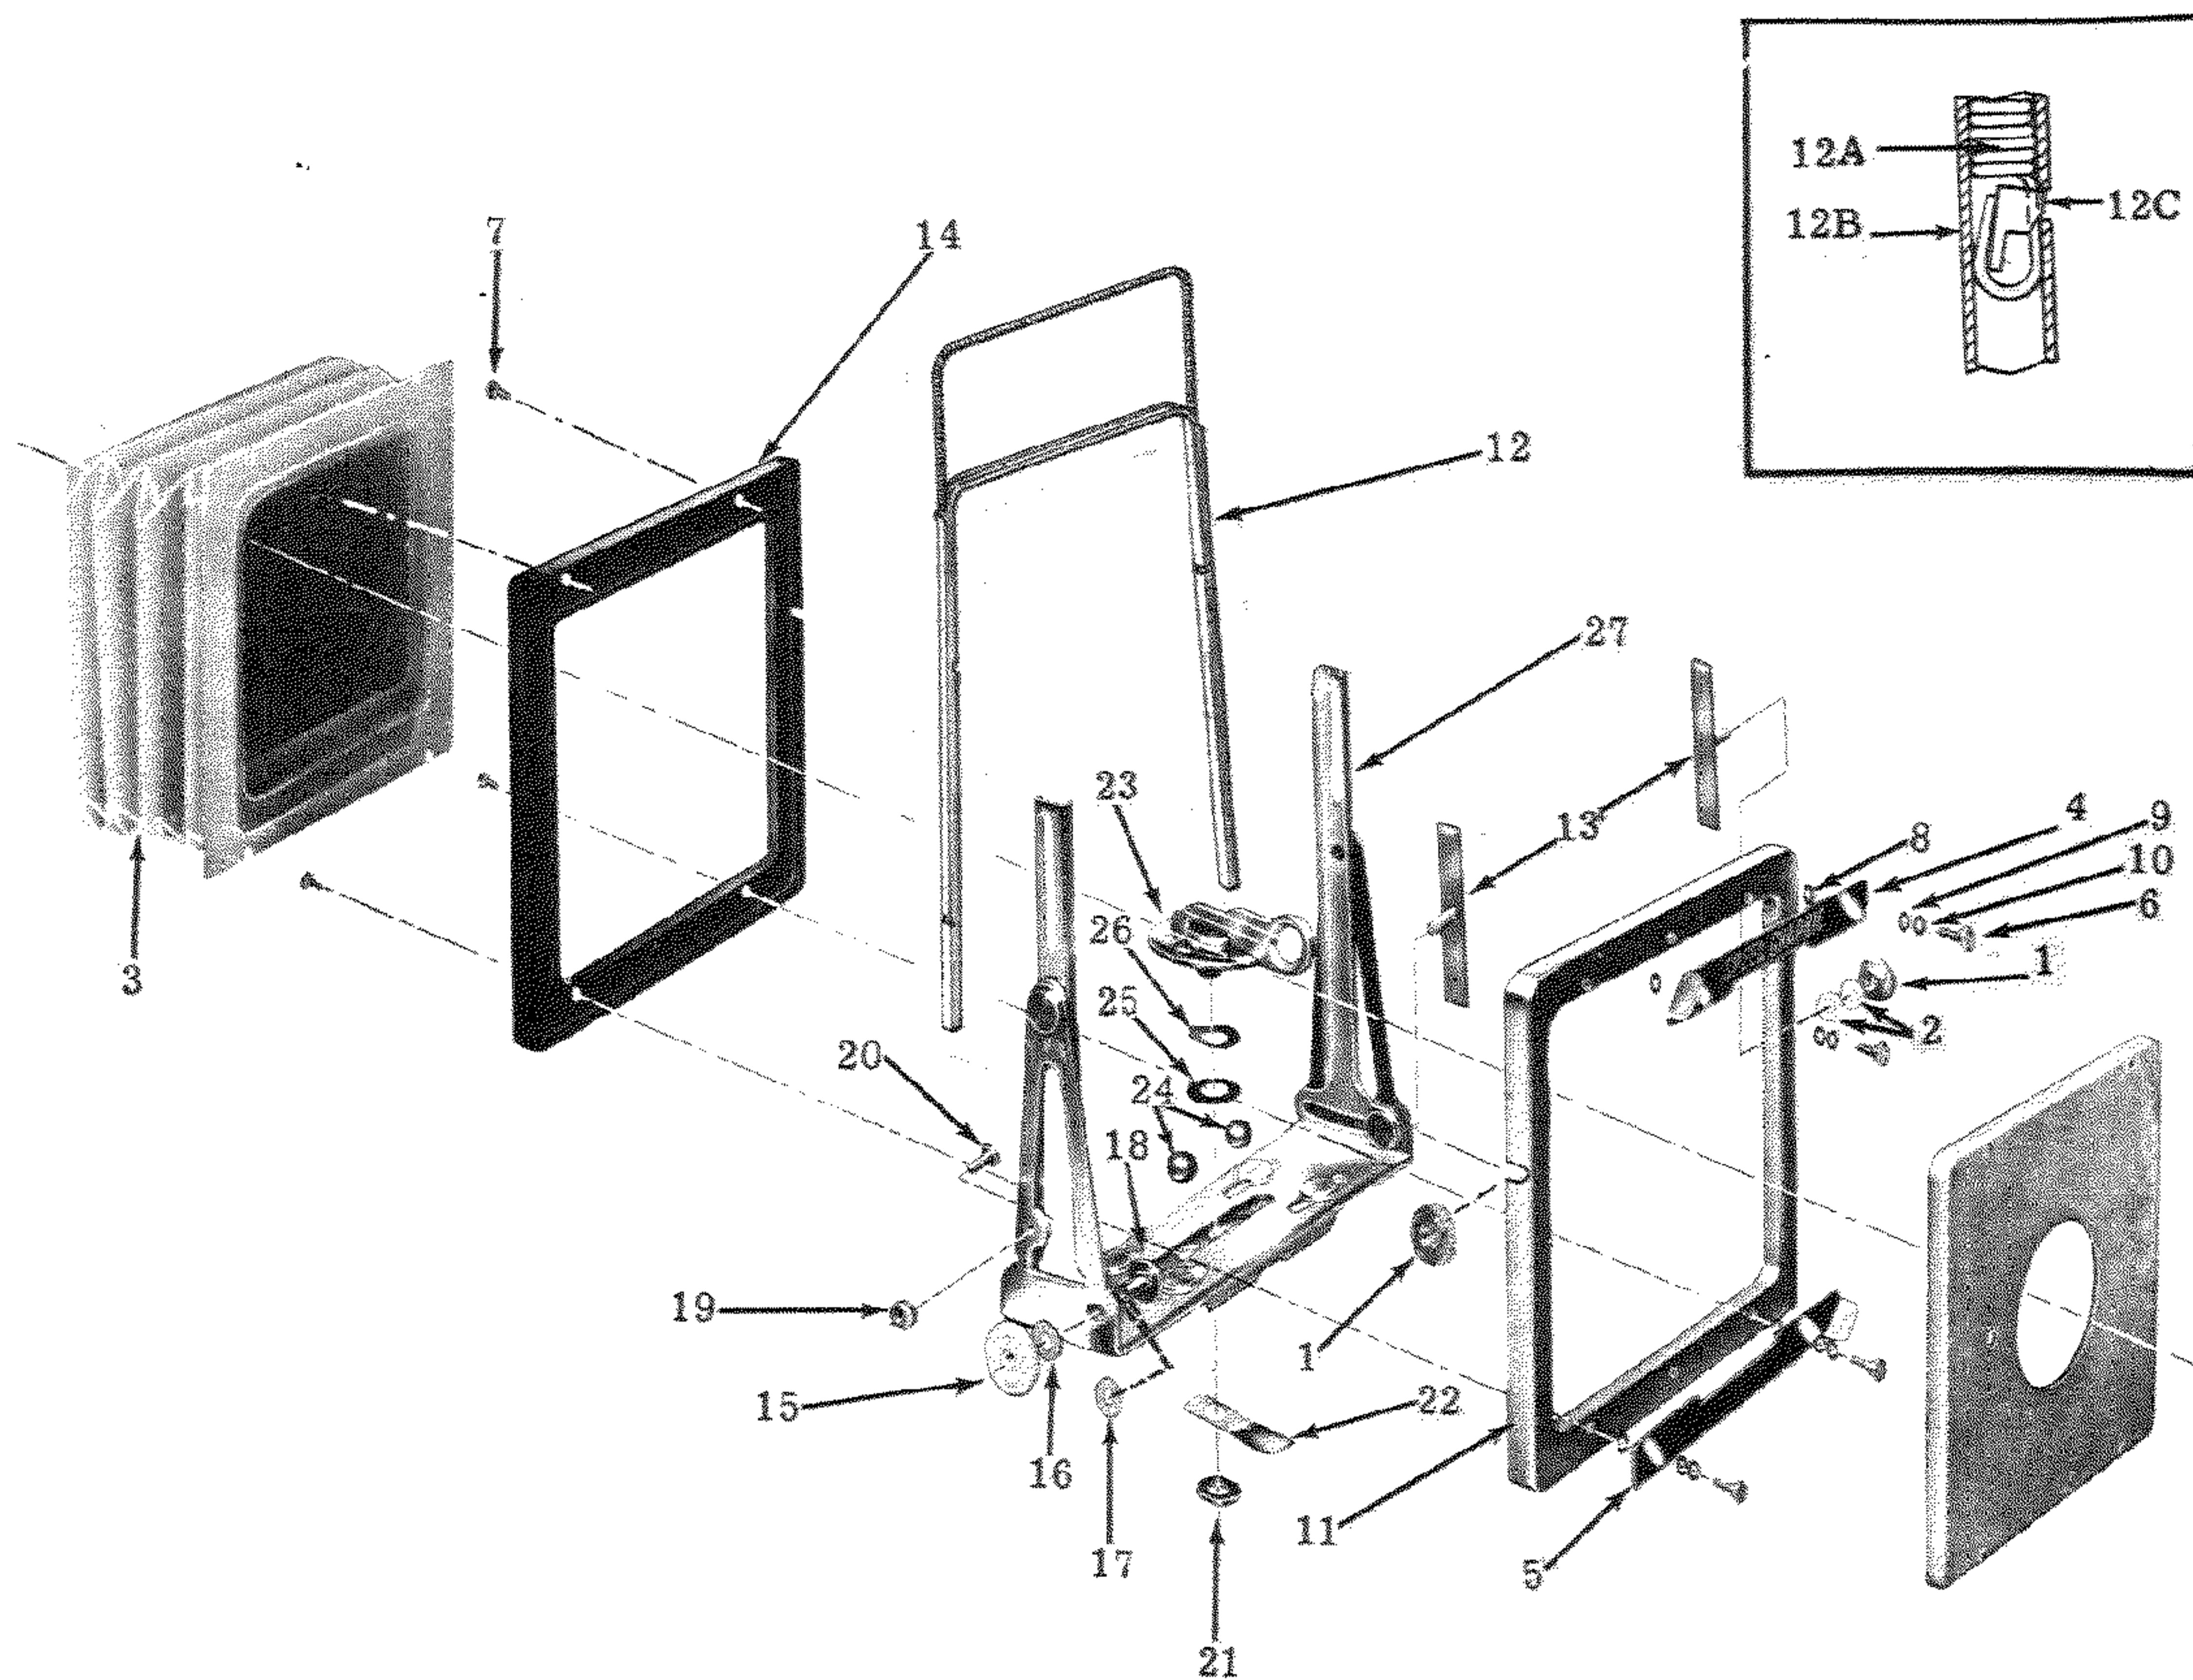

Figure 19. Front Standard Complete
NOTE: If it is not necessary to remove the bellows assembly (3, figure 19), slide the front standard from the bed and proceed from paragraph C.
- c) Set the curtain at "0", (open), and remove the two bellows retaining clips (23).
- d) To remove the bellows from the frame and support section, remove the lower slidelock (5, figure 19) that is secured by two slidelock screws (6). Loosen the two upper slidelock screws (6). Swing the lower edge of the front bellows frame back and drop the upper edge free from the slidelock nut head.
- a) Remove the frame clamp knob (rising front) (1, figure 19) from the right side of the front standard. Slip the manual trip bracket (27C, figure 3) from the stud.
- a) Remove two rising front knobs (1, figure 19) from each side of the frame. The ends of the stud securing knobs are staked. Remove the upper and lower slidelocks (4 and 5) that are attached by slidelock screw (6) flat washers (8 and 9) and spring washer (10).
- b) Spread the standard support assembly (27) enough to slide the lensboard frame upward and free of the channel.
- c) Lift the outer front frame assembly (11) evenly from the assembly to expose the inner parts of the frame and remove the finder complete (12).
4) Lateral Shift Spring and Lock Lever Disassembly. The lever assembly (23) and the shift locking spring (22) are secured by the special hex nut (21). Unscrew the special nut (21) from the bottom of the standard support assembly (27). The shift locking spring may now be removed. Unscrew the slotted stud
1. The bellows (3) should be wiped free of dirt on the outside with a damp cloth. Scrub the inside surface with a stiff brush (old toothbrush) and blow out all loose dirt and grit.
3. Clean the sliding area of the finder (12A, figure 19), the finder frame (12B) and the front frame clamp plate assemblies (13) in solvent (AN-T-37a) and dry before reassembly.
4. Squareness adjustment is set by the front standard eccentric (20) and special lock head nut (19) located on each side.
2. Inspect finder complete (12, figure 19) for squareness.
1. Lateral Shift and Lock Lever. To the lever assembly (23, figure 19) assemble the spring washer (26) and the flat washer (25). Fit the two steel balls (24) into their position between the lever assembly (23) and the standard support assembly (27) and thread the lever assembly stud through the standard support assembly. Lay the shift locking spring (22) in position and assemble the special hexagon nut (21).
2. Adjusting Lock Lever. Check the front standard to determine how tightly it will lock, by placing on the sliding yoke of the bed and setting the lock lever (23). It should clamp tightly enough to prevent slippage when the bellows and lens are assembled. To tighten the lock lever, loosen the lock nut (21) on the bottom side and turn the screw in a counter clockwise direction; to loosen the lock, turn the screw in a clockwise direction and tighten the nut.
b) Thread the manual trip bracket (27C, figure 3) through the bellows hangers and mount the bracket over the right front frame clamp plate stud. Assemble the frame clamp knob (1, figure 19) and peen the first thread of the stud at one point.